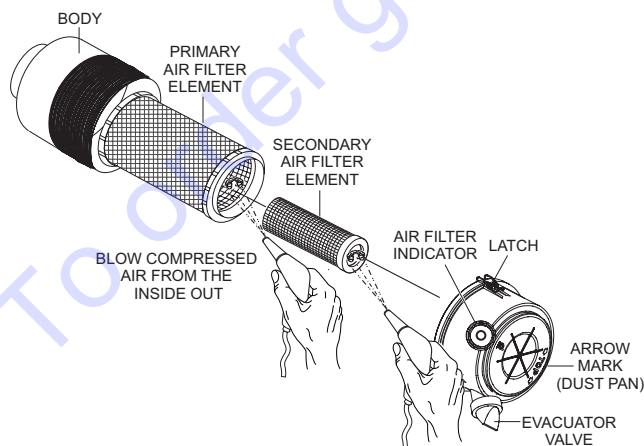

Figure 59. Air Cleaner
Every 250 hours: Remove the air cleaner element (Figure 59) and clean the heavy-duty paper element with a light spray of compressed air. Replace the air cleaner as needed.
1. Release the latches (Figure 59) that secure the cover to the air cleaner body.
6. To clean the primary element (paper air filter) as referenced in Figure 59, tap the filter element several times on a hard surface to remove dirt, or blow compressed air, not to exceed 30 psi (207 kPa, 2.1 kgf/cm2), through the filter element from the inside out.